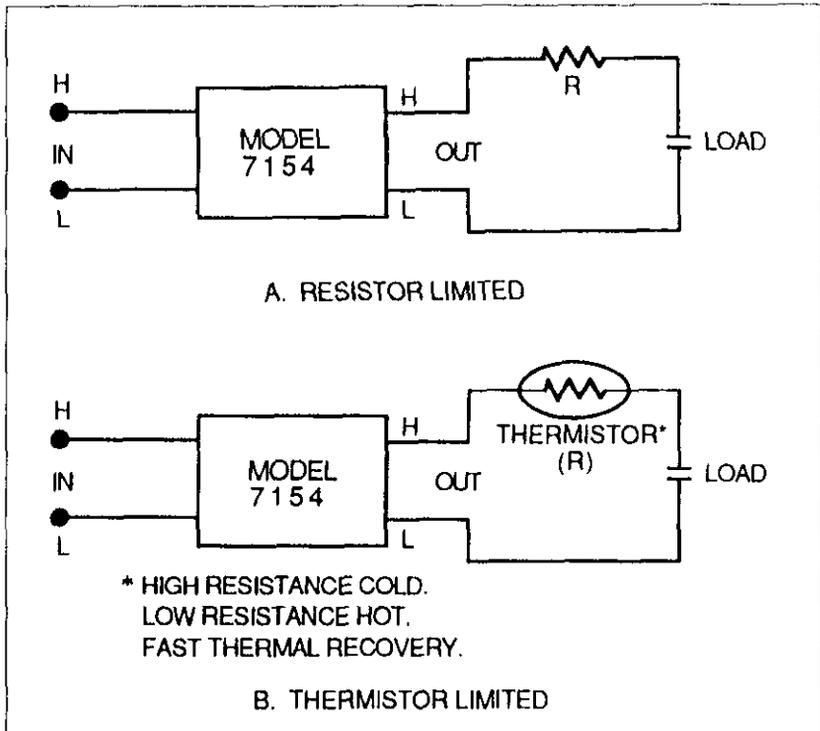

Figure 2-1. Limiting Capacitive Reaction Current
1. Capacitive Loads - The surge current from a capacitive load must be less than 0.5A to protect the relays. Figure 2-1 shows typical circuits to limit current surges. Also, consider the maximum load of 10VA when determining the current limit. For example, when switching 500V, the current must be limited to 20mA ($I = 10VA/500V$) and the limiting resistor calculation of Figure 2-1A would be: